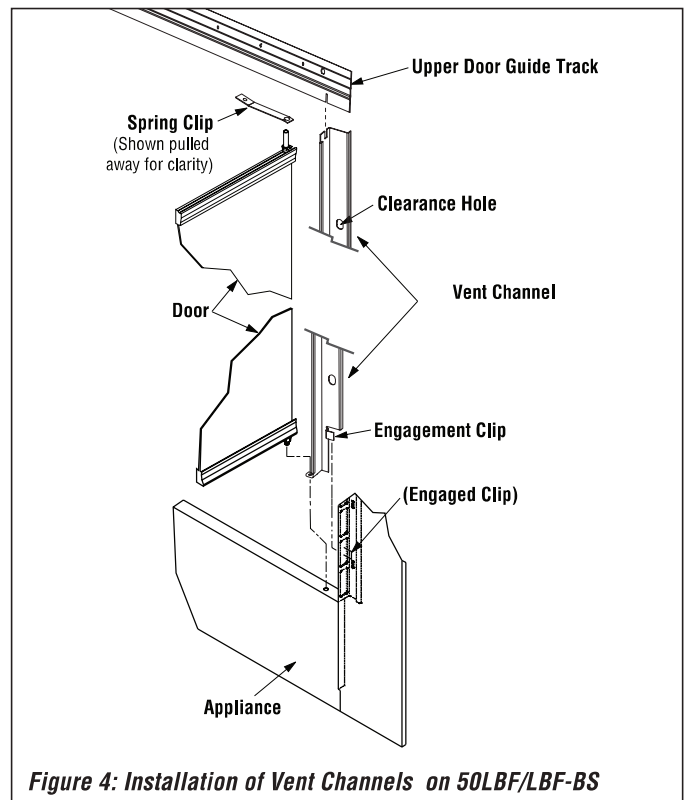

Figure 4: Installation of Vent Channels on 50LBF/LBF-BS
Step 1. Refer to *Figure 4, below*. While holding one of the vent channel components vertically and parallel to one side of the firebox opening, insert the top tab into the upper door guide track between the spring clip and the inside of the upper door guide track.